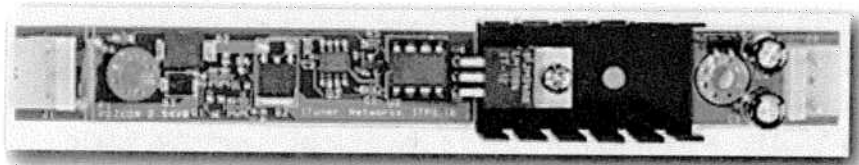

FIGURE 13-3: Mini-Box ITPS auto power sequencer and low-dropout regulator.
- The Mini-Box ITPS auto power sequencer and low-dropout regulator, for enabling your Car PC to turn on and off properly when the car’s ignition is switched (~\$40, see Figure 13-3). Make sure you purchase the one appropriate model for your processor and motherboard type (see www.mini-box.com for details).